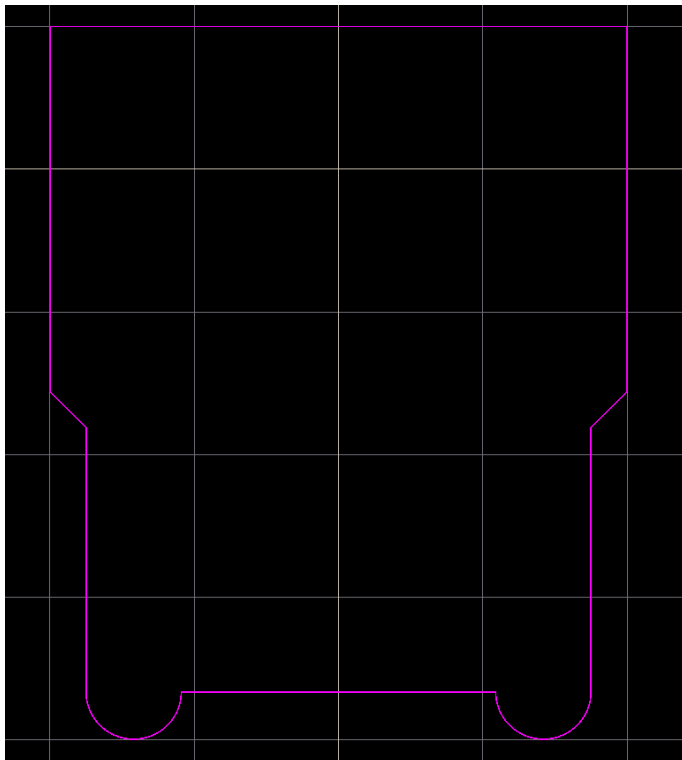

Figure 13. Imported DXF outline
44. After clicking on **OK**, the board shape will be imported similar to Figure 13.